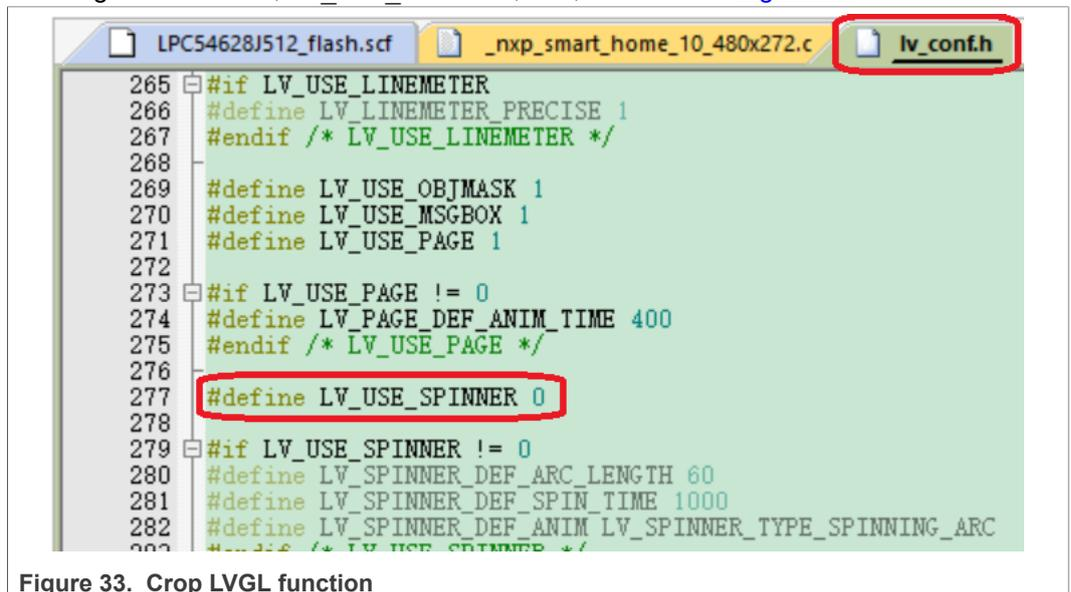

Figure 33. Crop LVGL function
- Crop the LVGL configuration file called `lv_conf.h` and do not compile the code of the widget that is not used. For example, smart home does not use the Spinner widget. Configure the macro, `LV_USE_SPINNER`, to 0, as shown in Figure 33.